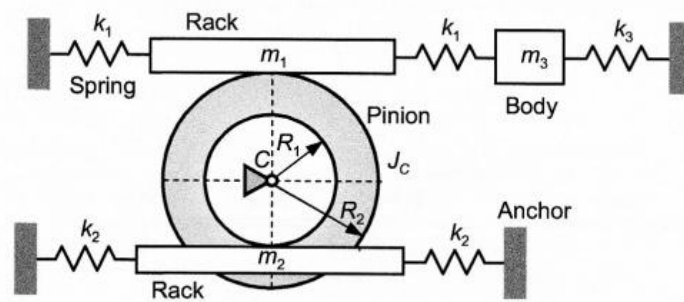

FIGURE 3.71
- 3.36** Derive the mathematical model of the mechanical system shown in Figure 3.71, which is formed of a pinion, two racks, a body, and several springs. The pinion comprises two concentric disks forming a single solid part that rotates around a fixed axis passing through its center C . The pinion meshes (without slippage) with two racks that consequently undergo translatory and parallel motions. Calculate the eigenvalues, unit-norm eigenvectors, and describe the modes of the mechanical system. Use the MATLAB specialized command to check the analytical eigenvalues and eigenvectors. Known are $m_1 = 1 \text{ kg}$, $m_2 = 2.1 \text{ kg}$, $J_C = 0.05 \text{ kg m}^2$, $m_3 = 0.6 \text{ kg}$, $k_1 = 120 \text{ N/m}$, $k_2 = 100 \text{ N/m}$, $k_3 = 110 \text{ N/m}$, $R_2 = 2R_1 = 0.03 \text{ m}$.